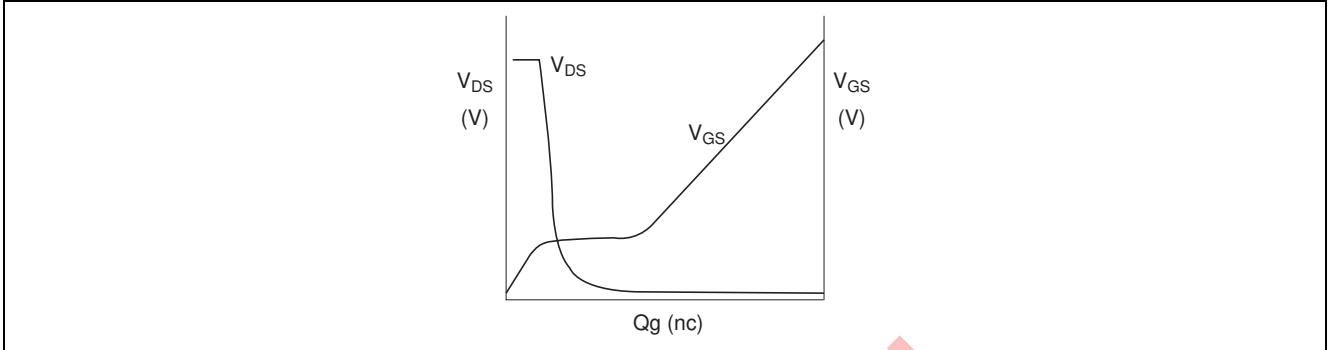

Figure 9 Power MOS FET Dynamic Input Characteristics
At this time, the power that should be supplied from the IC to the power MOS FET is determined by gate load Q_g in Figure 9.
2. IC Heat-Emission Power Calculation (Figure 9)
Q_g : Gate charge according to Figure 9